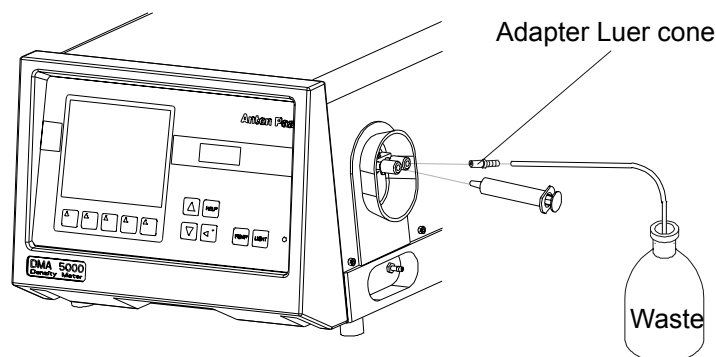

Fig. 9 - 2 Filling, using a syringe
A. **By syringe with Luer tip**, see Fig. 9 - 2.